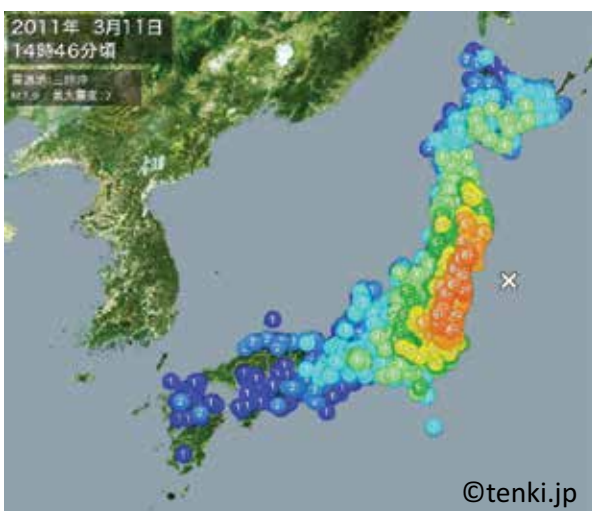

Figure 1 East Japan Great Earthquake (the number shows seismic intensity level)
As is well known, the East Japan Great Earthquake occurred on the 11th March 2011 with Magnitude 9.0 and maximum seismic Level 7, which killed almost 20,000 people mainly due to Tsunami (see Figure 1). The epicenter was about 130 km offshore from the Miyagi Prefecture in the Pacific Ocean. According to our validation test with three-dimensional analysis of GNSS data, three major precursors were found 6 months, 5 months and 2 months prior to the earthquake as well as just 3 days prior (see MURAI, S and ARAKI, H, 2011, 2012).
- A: Epicenter shown in Figure 1 and 2